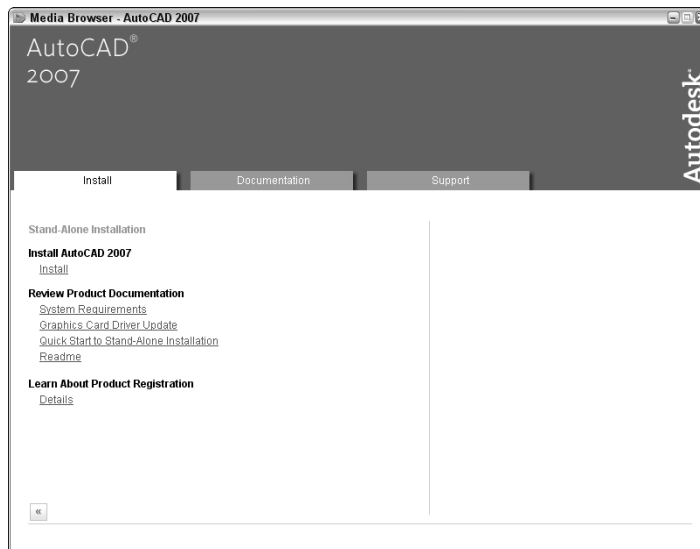

**Figure A-1:** The Install screen when you choose a stand-alone installation.
3. The Install screen provides links to all of the installation tasks and information that you need, as shown in Figure A-1. Click Install.